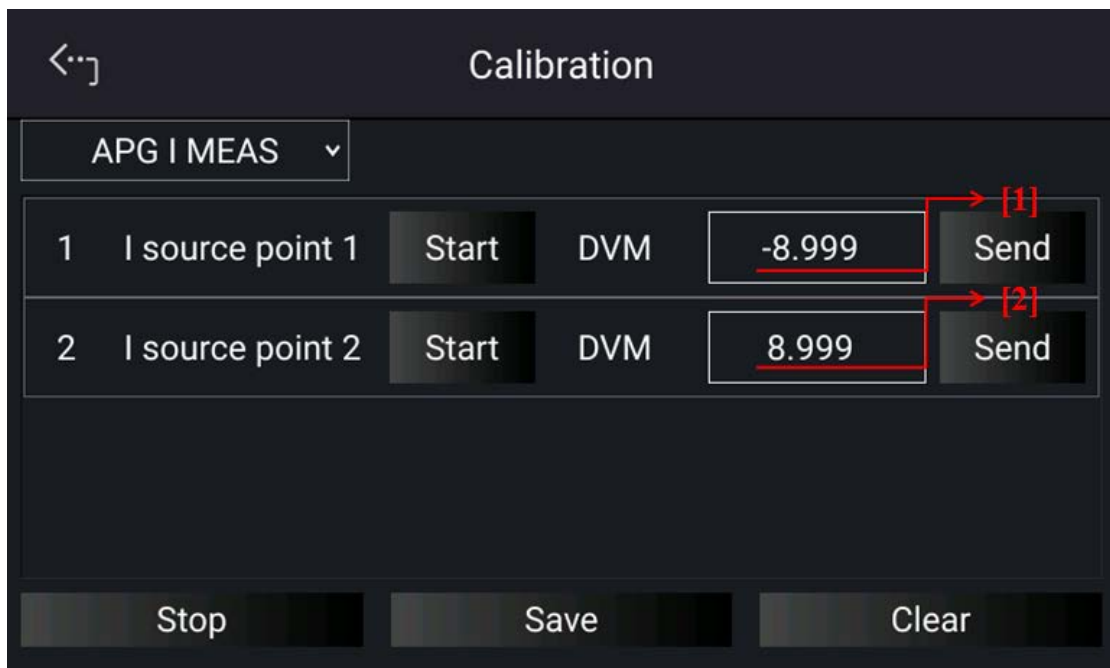

Figure 3-81
3. When the APG current calibrations are done, tap “STOP” to exit the calibration procedure. To save the calibration data, tap “SAVE”, and tap “CLEAR” to delete the calibration parameters if there is no need to save them as Figure 3-81 shows.